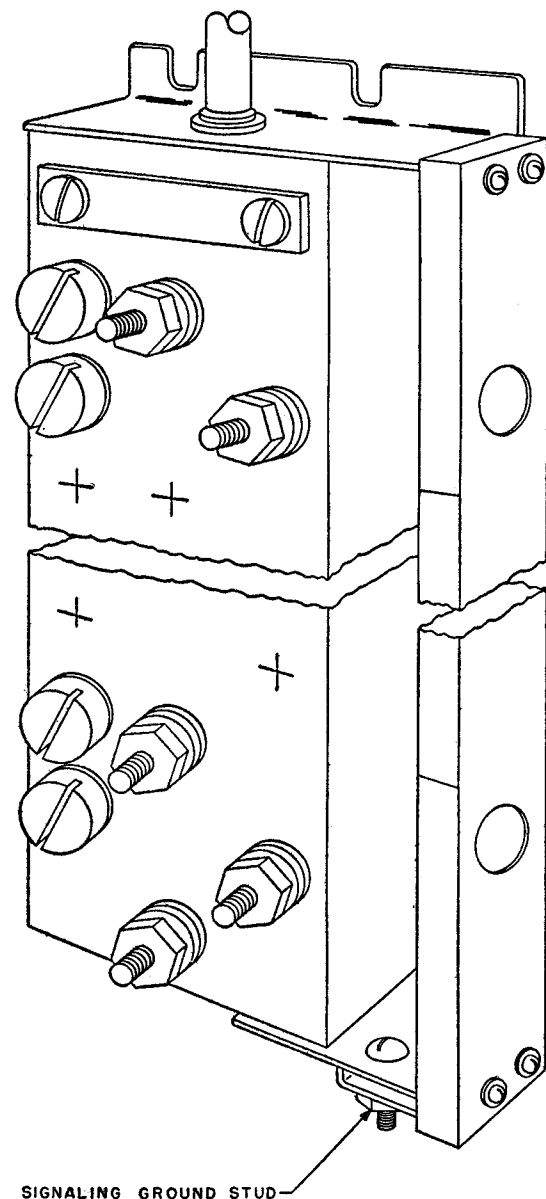

Fig. 15—The 1A4A Terminal Block Showing Signaling Ground Studs
9.02 Signaling grounds on 1A4A (10-, 16-, and 26-pair terminal blocks) may be obtained from ground screw on fanning strip bracket shown in the lower right-hand corner of Fig. 15. Three additional ground lugs are provided on 51-pair terminal block, see Fig. 16.